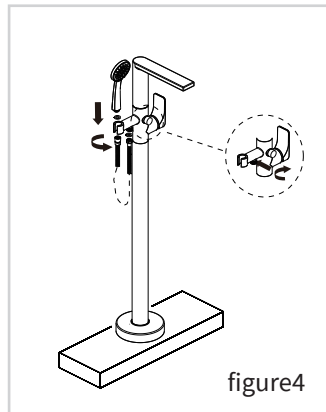

figure4
5. Connect the shower hose to the body and the hand shower. Ensure a Washer is into each end for seal. (figure4)
6. Press diverter to operate shower, and it can be locked by. Press and rotate the diverter until it is locked by when the water pressure is lower than the minimum working pressure. (figure4)